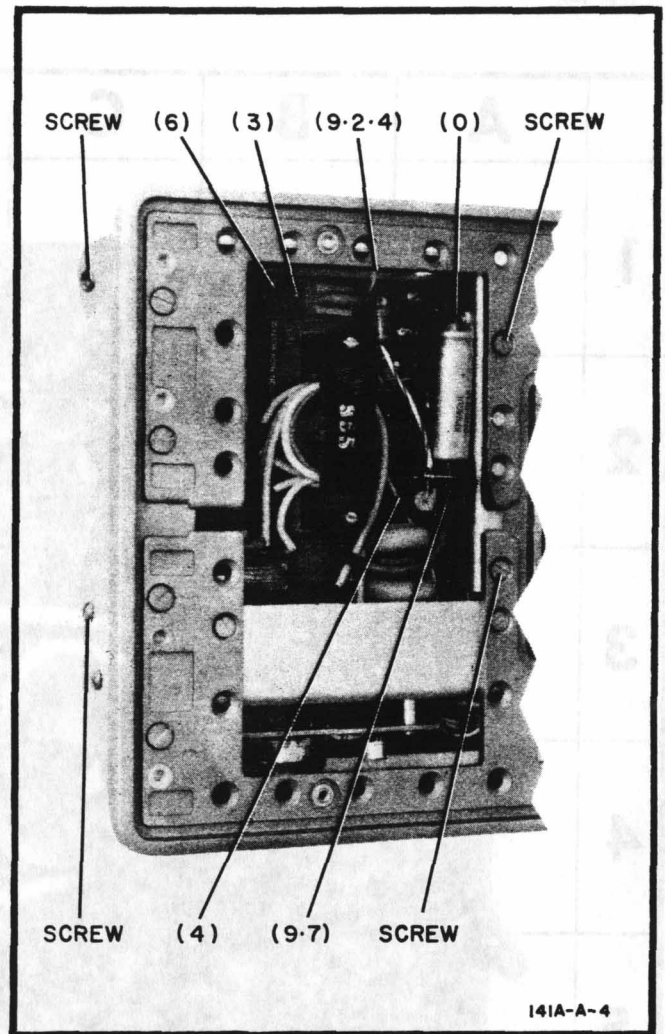

Figure 5-3. High Voltage Deck Removal
Most of the components on the high voltage deck can be replaced without removing the assembly. Other components can be removed and replaced by moving the deck part way out (without disconnecting wires). Refer to Figure 5-3 for mounting screws and wire identification; use the following procedure for removing the high voltage deck.
- b. Disconnect the 6 wires from the board and remove the 4 mounting screws; see Figure 5-3 for wire and screw identification.